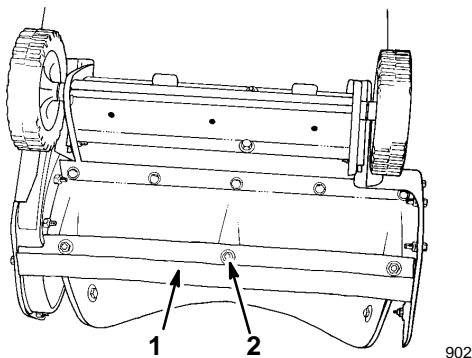

Figure 11
4. Remove three carriage bolts and three flange nuts that hold the scraper in place (Fig. 11).
5. Remove the scraper (Fig. 11).
6. Secure the new scraper to the housing with carriage bolts and flange nuts. Position the bolt heads on the inside of the housing (Fig. 11).